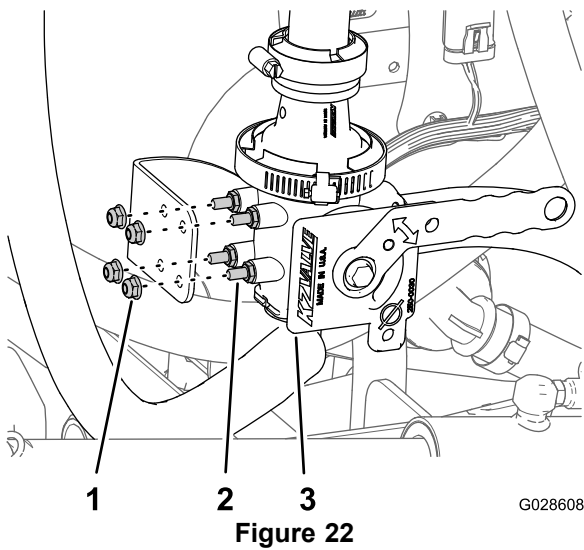

Figure 22
- Align the studs of the eductor valve to the holes in the eductor valve bracket and secure the valve to the bracket (Figure 22) with the 4 flanged locknuts (1/4 inch).